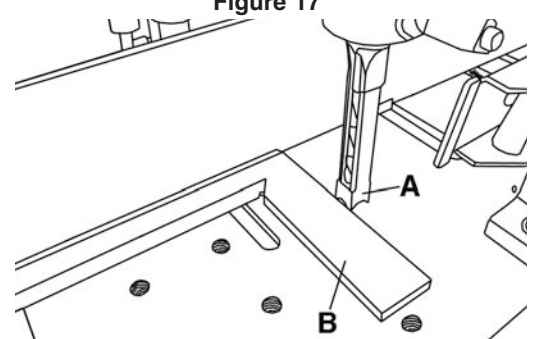

Figure 18
Once you are certain the fence is parallel to the table, now you can proceed with setting the chisel square with the fence. The easiest way to achieve this is to lower the head down to bring the chisel (A) Fig.18 as close to the table as possible. Use the head height stop bushing to hold it in this position. Place a square (B) against the fence and the side of the chisel, loosen chisel lock knob, set the chisel square and and retighten lock knob. Remember to have the chip ejection slot in the chisel to the side from which you will cut the mortise.